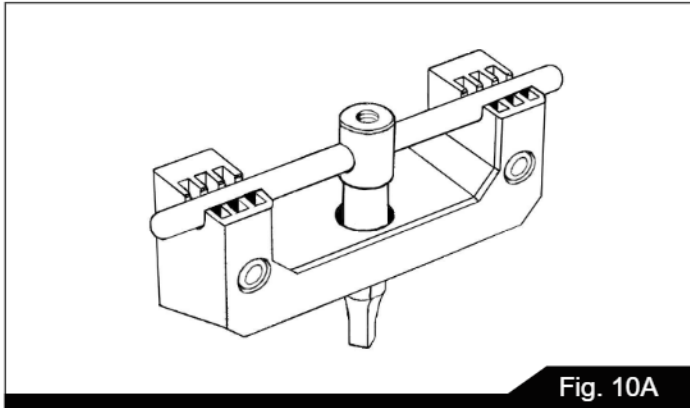

Fig. 10A
**Chuck Key Bracket:** The chuck key bracket (Figure 10A) is located on the cabinet below the headstock. The chuck key must be placed within the bracket for lathe to operate. A sensor in the bracket will deactivate spindle if key is not present - this ensures key has been safely removed from chuck and spindle area before starting the lathe.